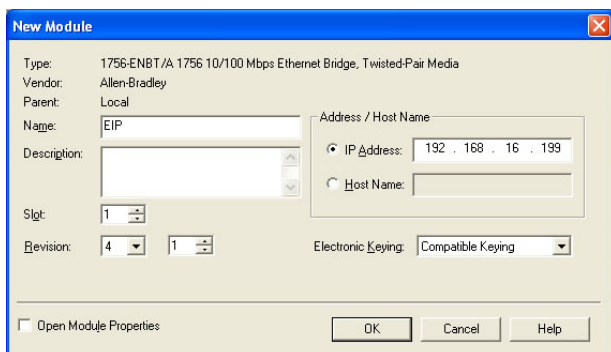

Figure 75: Identifying the New Module
- 6) The “New Module” window will open. Refer to Figure 75.